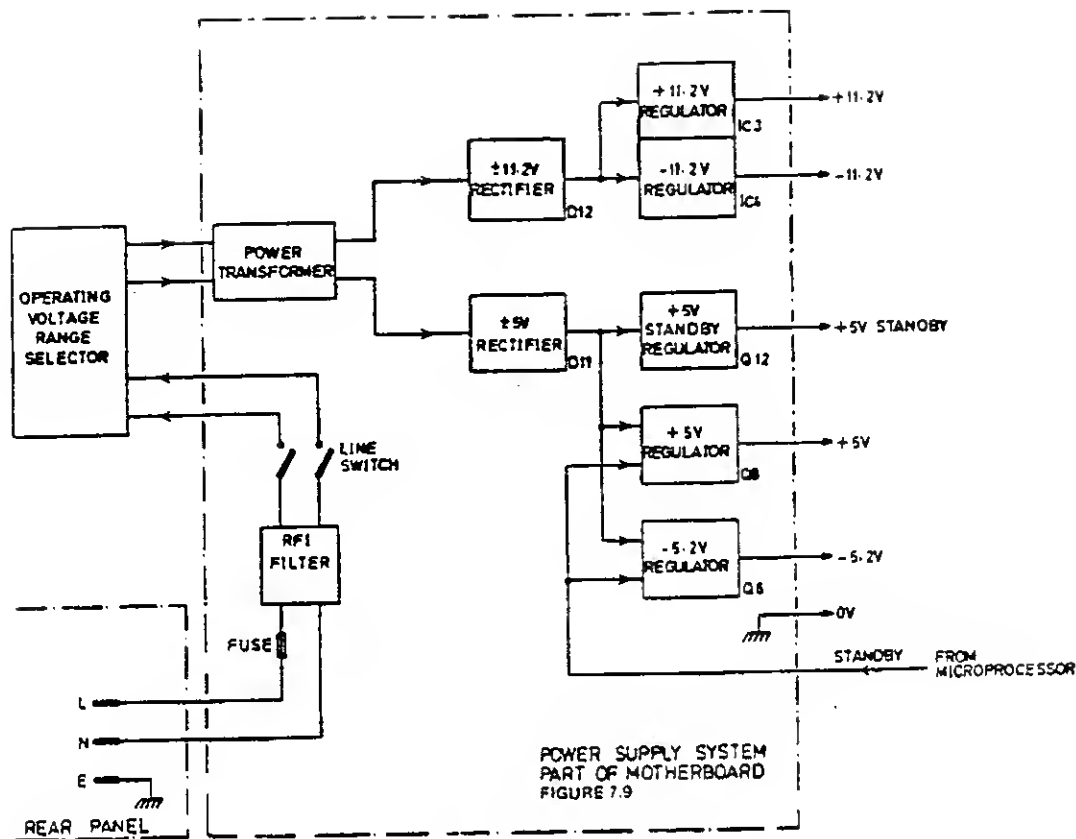

Figure 5.10 - Power-Supply-Block Diagram
5.3.8.1.1 A simplified diagram of the power supply block is given in Figure 5.10. The AC supply enters at a plug mounted on the rear panel and passes via a fuse and RFI filter, mounted on the motherboard, to the line switch.